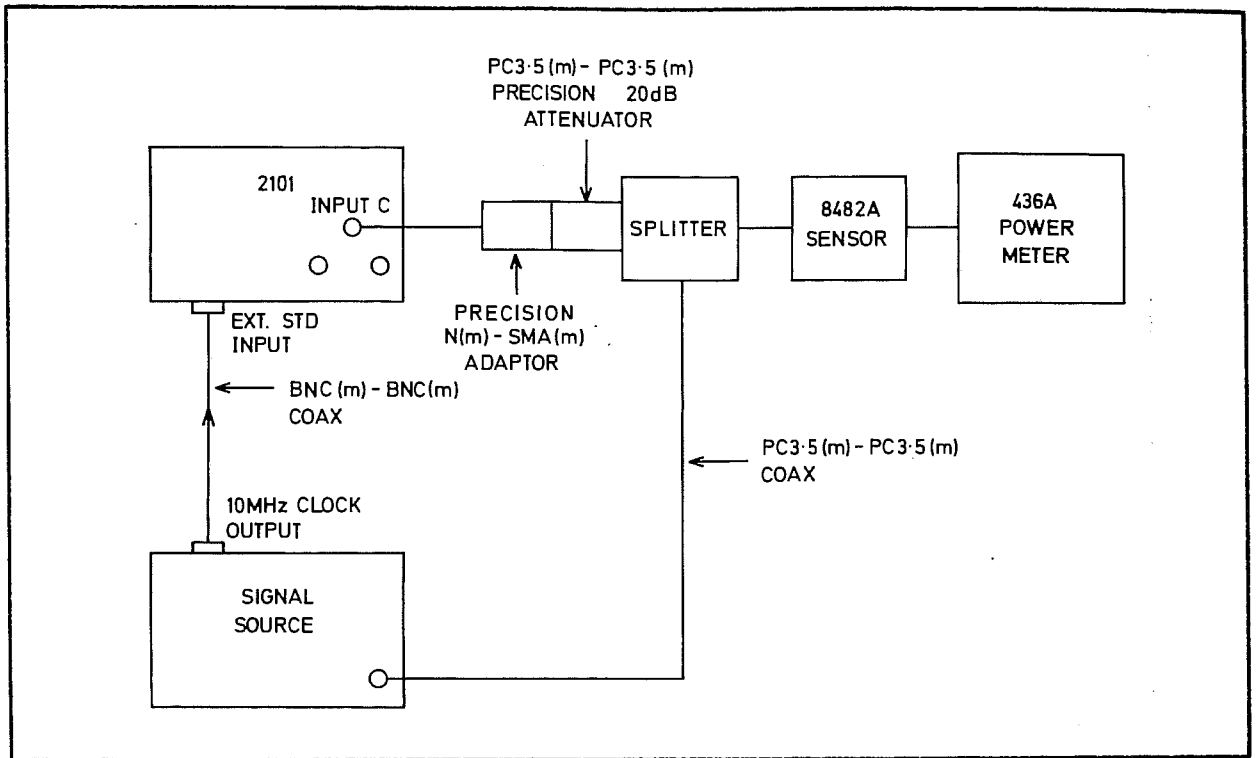
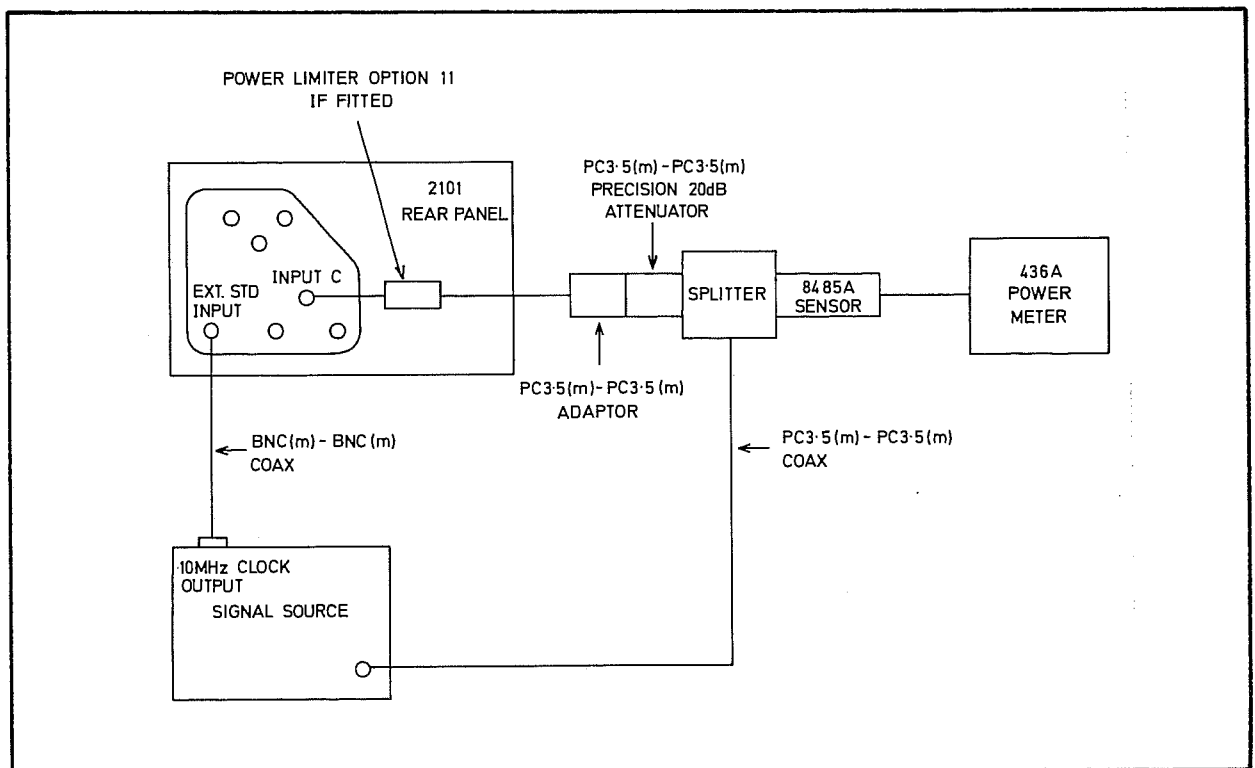

Fig. 7.13 Connections for Channel C Input System Adjustment (Without Rear Inputs Option 01)
Fig. 7.14 Connections for Channel C Input System Adjustment (With Rear Inputs Option 01 Fitted)
54 (1) Connect the equipment as shown in Fig. 7.13, (Fig. 7.14 if Rear Inputs Option 01 is fitted).
(2) On the 2101 select SF35 and SF41. Set the LO to 340 MHz by pressing:
- 55 (1) Connect the equipment as shown in Fig. 7.13, (Fig. 7.14 if Rear Inputs Option 01 is fitted).
- (2) On the 2101 select SF35 and SF41. Set the LO to 340 MHz by pressing:
- (3) Set the signal generator to 12.5 GHz and adjust its output level for a reading of (-15 + CAL)dBm, on the power meter, where 'CAL' is the calibration (insertion loss) factor printed on the limiter module.
- (4) Adjust R14 on the IF Processor module clockwise until the 2101 display just changes from '0' to '1'.
- (5) Reduce the output from the generator for a reading of (-16 + CAL)dBm, on the power meter. Check that the 2101 display shows '0'.
- (6) Slowly increase the signal generator output level until 2101 display just changes from '0' to '1'. Check that the power meter reads (-15 + CAL)dBm +/-0.2 dBm.
- (7) Disconnect the test equipment.